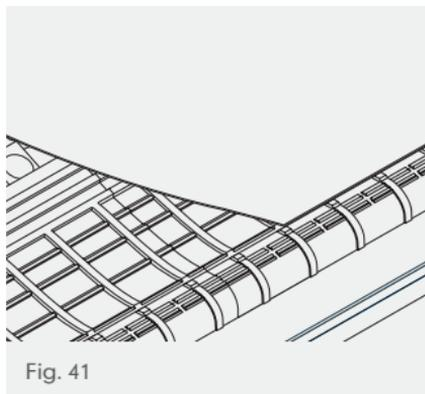

Fig. 41
- 7 Lay the underlay over the support tray stopped approx. 25mm from the top of the curved front edge of the felt support tray. (Fig 41). The underlay should not be left exposed to UV light.
- 1 Install the roofing underlay over the rafters, ensuring sufficient drape into gutter (Figs. 41 and 42).